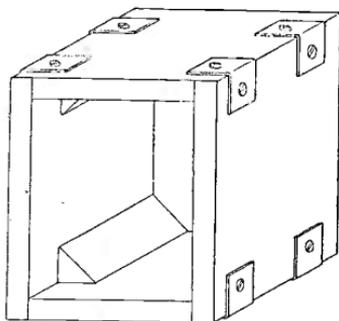

FIG. 6.—Case for Thomson's Galvanometer.
**A SIMPLE VERTICAL DEFLECTOR.**—The case is made of well-seasoned cedar,  $\frac{1}{4}$  in. thick and measures outside  $3\frac{1}{2}$  ins. by 3 ins. by 2 ins. in depth. The sides may be dovetailed together, or fixed by brass corner plates let in flush with the surface of the wood (see fig. 6). A piece of sheet brass,  $\frac{3}{32}$  in. thick, is now cut to fit inside the case. This is for the dial plate, and should be quite flat, as one side is to be polished. To fix this plate in the case we shall require a hole in each corner to take screws screwed into the four corner pieces shown in fig. 6. The face of the dial should be  $\frac{1}{8}$  in. below the level of the case.